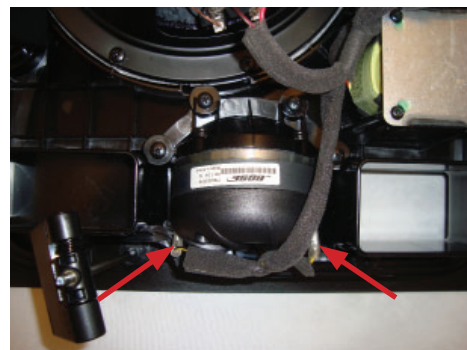
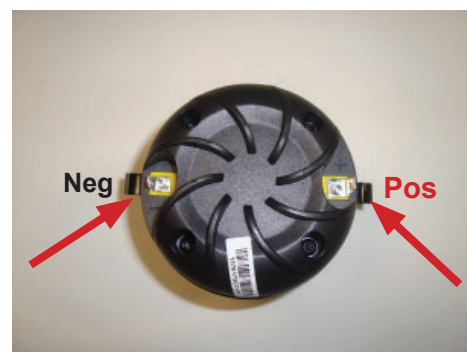

Figure 15
Figure 16
3.3 Remove the negative and positive wires from the driver terminals as indicated by red arrows shown in figures 15 and 16. The negative terminal is smaller than the positive terminal. When the driver is mounted to the baffle, the negative terminal should be located on the left and the positive terminal will be located on the right as shown in Figure 16.